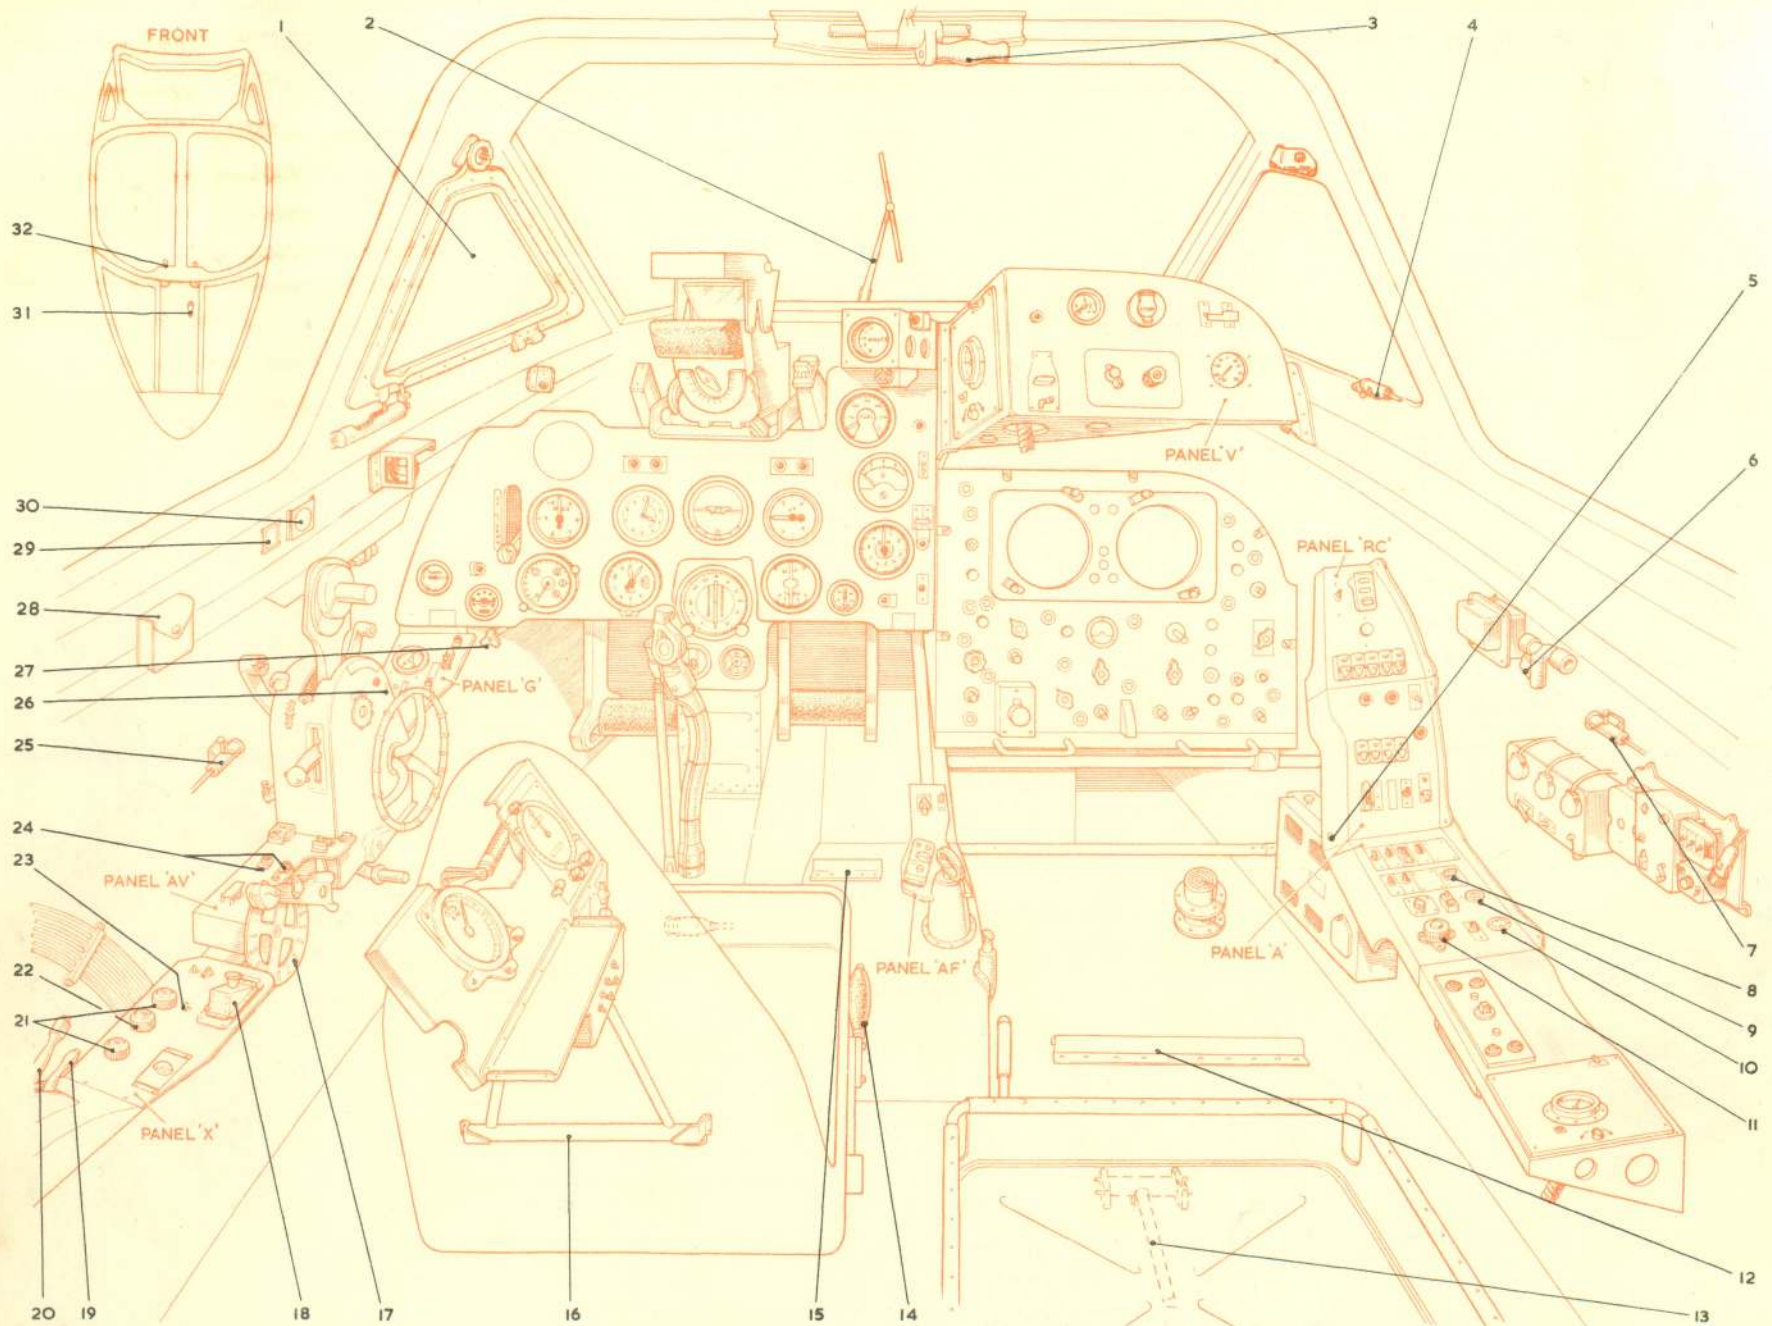

Fig. 4 Miscellaneous controls and equipment (early aircraft)
**2.** The only entry or exit for the crew is through the canopy hatch. A special ladder for access can be locked by the lock bolt in the ferrule on either the port or starboard side of the fuselage. It is essential that the ladder should be opened out fully before placing against the fuselage. A pilot's footstep is also fitted in the port side of the fuselage which, when used, is pulled out and held by a catch, a spring returning it to the stowed position. The hatch may be opened from either inside or outside the cabin, the handles being indicated in fig. 4 and 8. When opened, the hatch is supported by a balance arm and is automatically locked in the fully open position. Before closing the hatch, the balance arm must be unlocked by pulling forward the knob on the starboard side of the cabin. From inside the cabin, the hatch is
**3.** The seat is made of moulded plastic and is adjustable for height by operating a lever on the right-hand side (*fig. 4*). A mic-tel socket stowage is attached to the seat and an oxygen supply pipe is clipped to the harness. The rudder pedals are adjustable for reach by lifting them against the tension of the springs and then sliding them fore-and-aft into the required ratchet slot.
## KEY TO FIG. 4 (MISCELLANEOUS CONTROLS AND EQUIPMENT—EARLY AIRCRAFT)